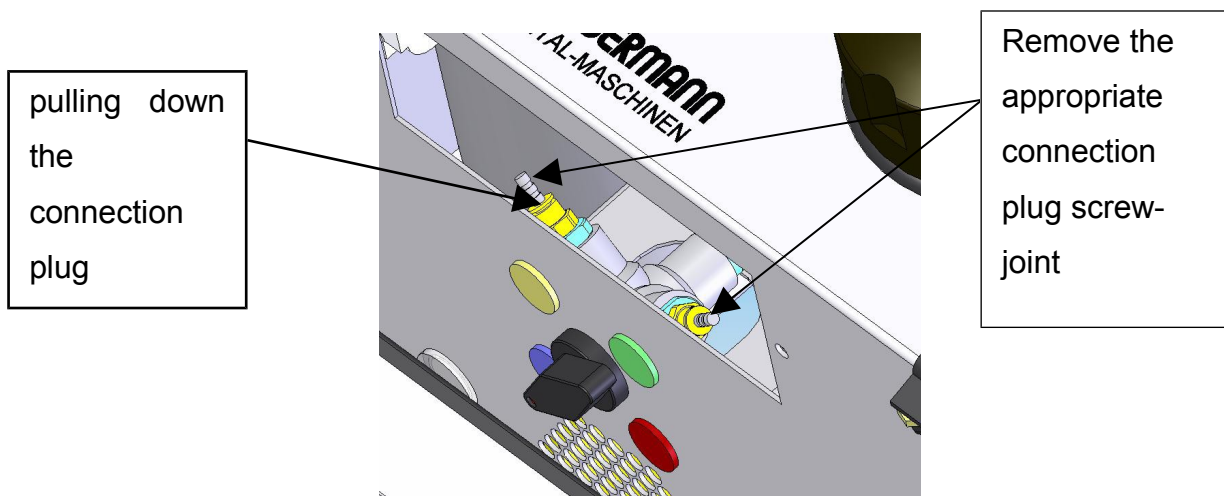

Fig. 6
- In each case remove the appropriate connection plug by pressing down the ring of the plug screw-joint, at the same time pulling on the connection plug. **Figure 6.**